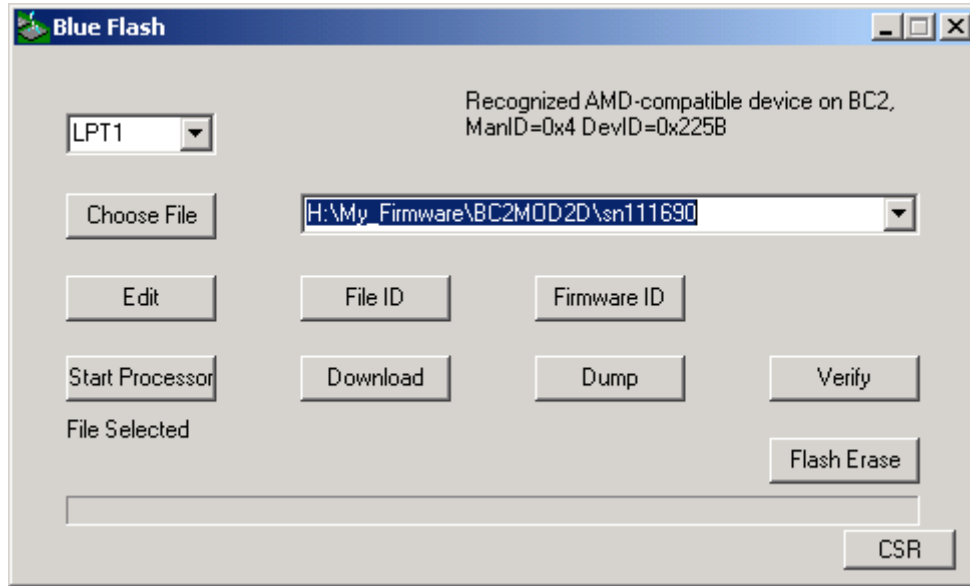

Figure 4.1: BlueFlash Processor Stopped
8. Stop the BlueCore Processor. Click **Stop Processor**. If you successfully connected to the module, the BlueFlash window indicates recognition of the flash memory type and displays device information in the top status bar as Figure 4.1 indicates.